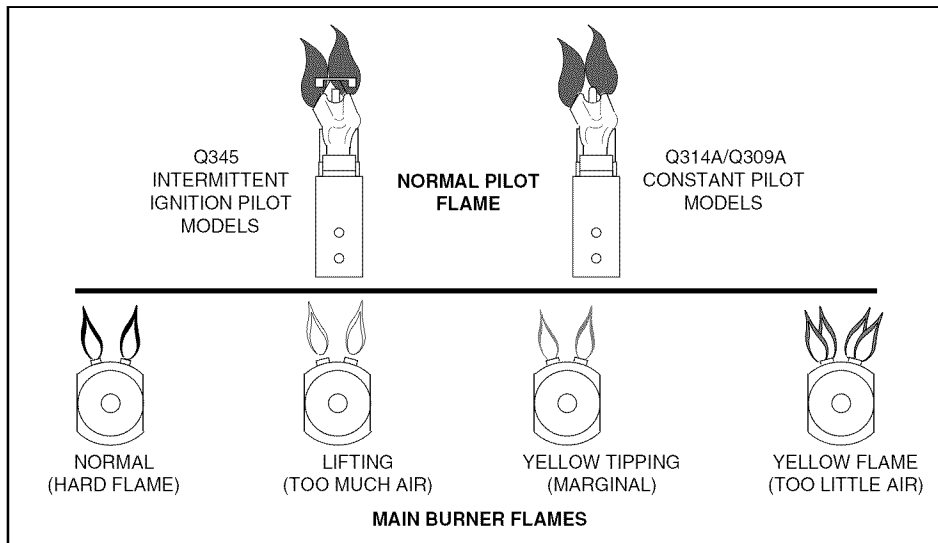

FIGURE 3.2: BURNER FLAME COMPARISON/PILOT FLAME
4. Observe pilot and main burner flame (see Figure 3.2). All burner ports should be ignited and burn with a steady blue flame.